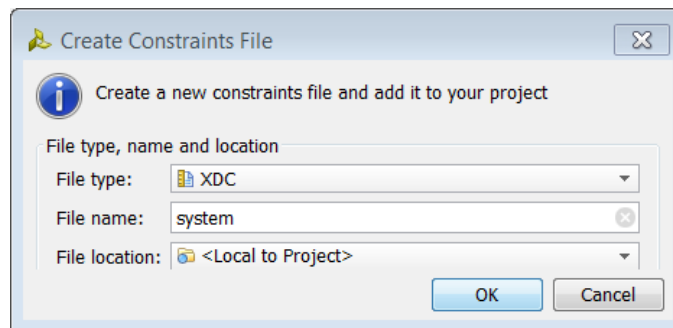

Figure 119: Name Constraint Set File
4. Name the file **system**, and click **OK** (FIGURE 119).